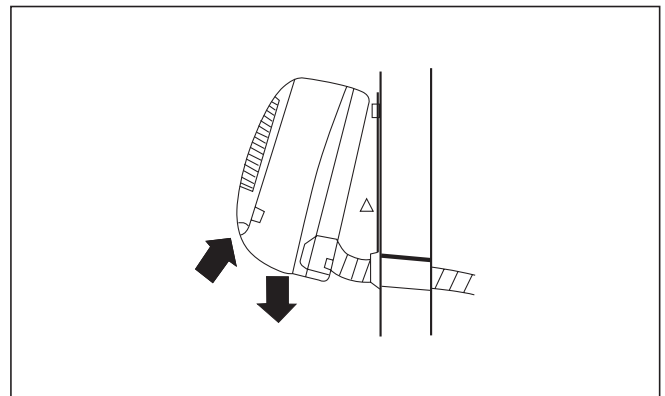

Fig. 9.8 Assembling the indoor unit.
- Tilt the lower part of the indoor unit forwards and insert an auxiliary tool (e.g. a piece of wood) between the mounting plate and the unit (see Figure 9.8) to allow access to the unit connections.